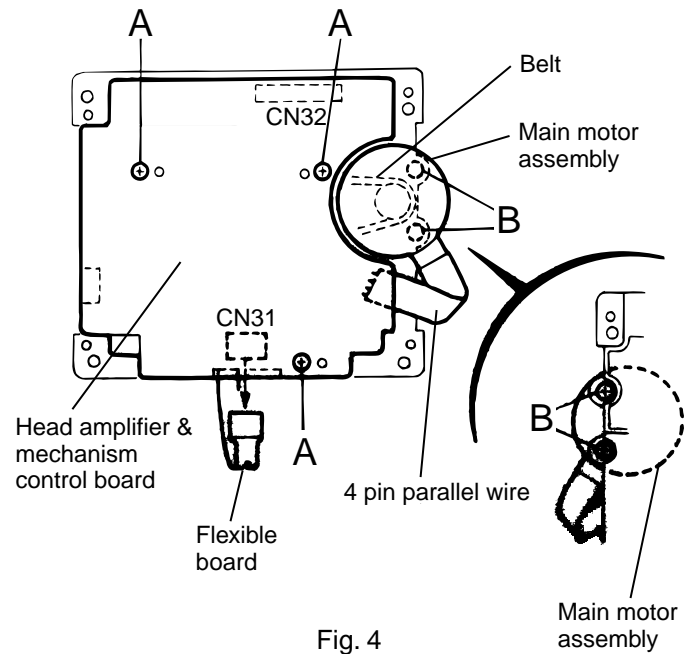

Fig. 4
■ Removing the head amplifier and mechanism control board (See Fig. 4)
■ Removing the main motor assembly (See Fig. 4~6)